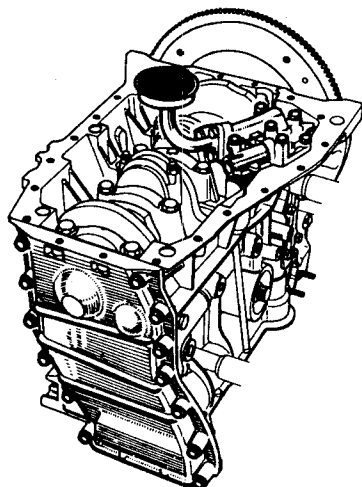

Fig.1.28 Location of the oil pump
- 3 Unscrew and remove the pump securing bolts and remove the pump taking care not to damage the gauze filter, Fig.1.28 or rotors (photo).
- 1 Refer to Fig.1.28 and unscrew and remove the thirteen timing cover bolts (photo). Note any difference in length in the bolts and mark them for correct replacement.